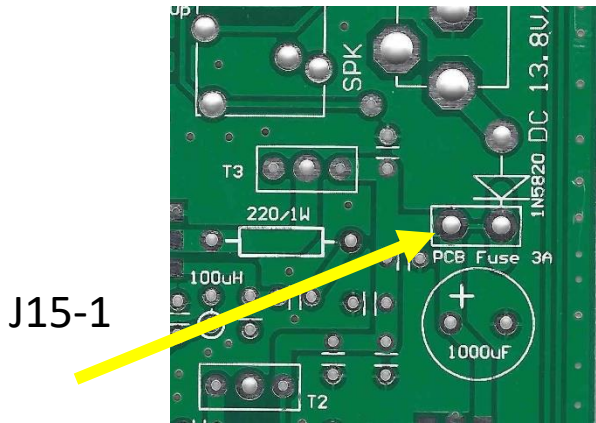

Figure 6
- J15 – 1 connect to +12 supply – See Figure 6